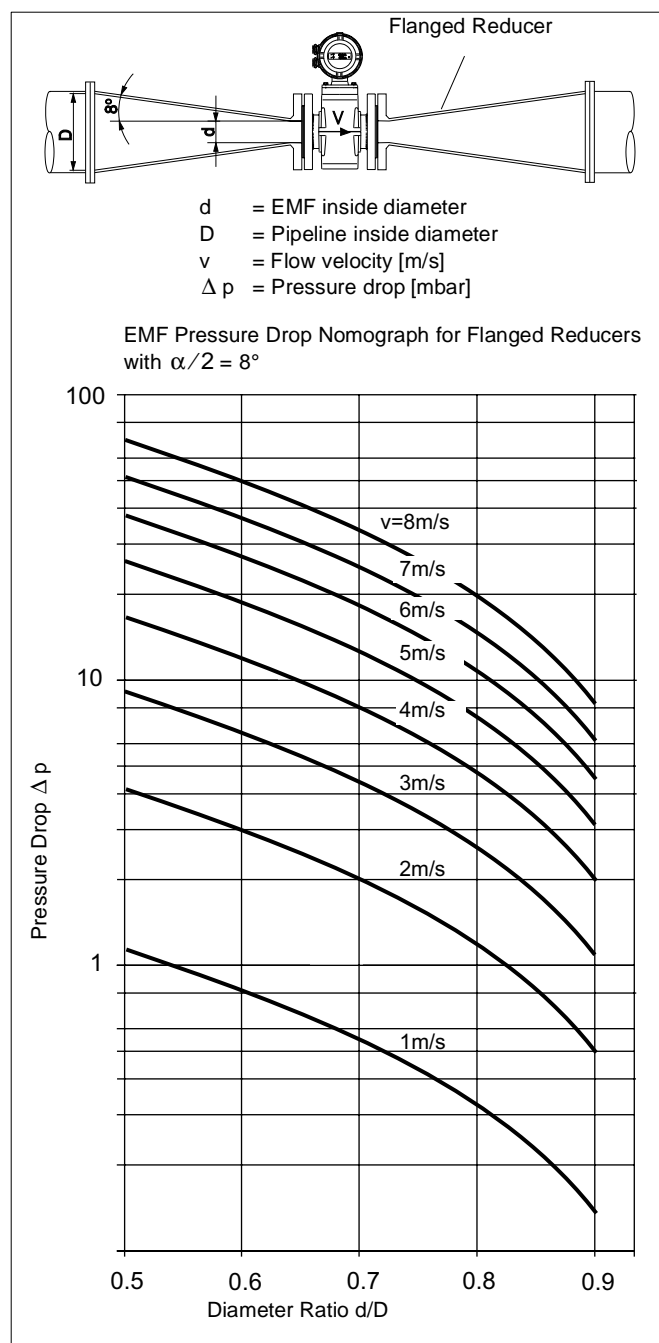

Fig. 5 Pressure Drop Nomograph for the EMF
The flowmeter primary can readily be installed in larger pipeline sizes using standard reducers. The pressure drop resulting from the size reduction can be determined from the Pressure Drop Nomograph Fig. 5 . The procedure for determining the pressure drop is as follows:
3. In Fig. 5 read the pressure drop on the Y-Axis.